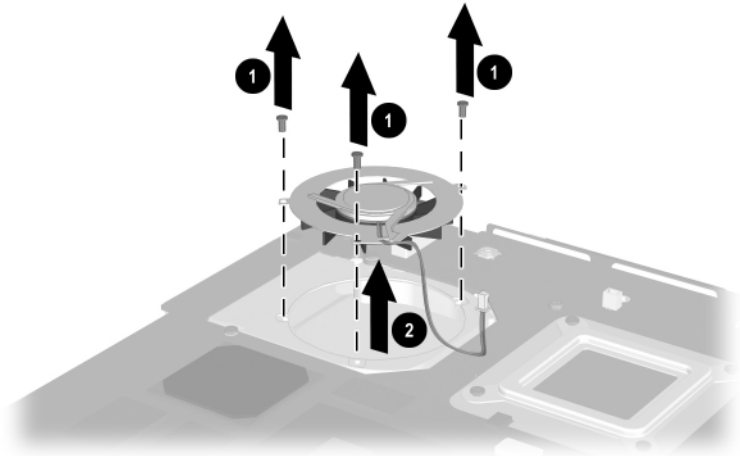

Figure 5-30. Removing the Fan on Evo Notebook N620c and N610c Models
8. Remove the three PM2.0 × 4.0 screws ❶ that secure the fan to the heat sink (Figure 5-30).
9. Lift the fan out of the heat sink ❷.